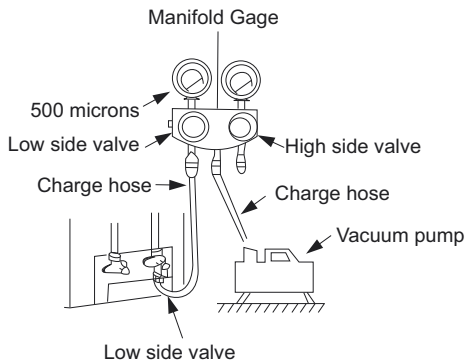

Fig. 19 Manifold
- 3 Fully open the low side of the manifold gage (see Fig. 19).